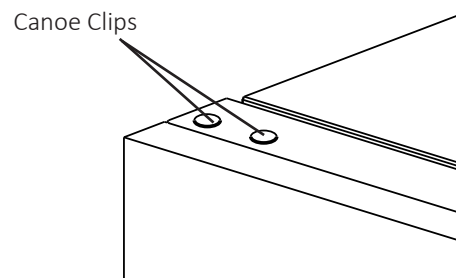

Fig. 22
- 10) Insert the 2 canoe clips included in the accessory bag into the holes on top of the door (See Fig. 22).